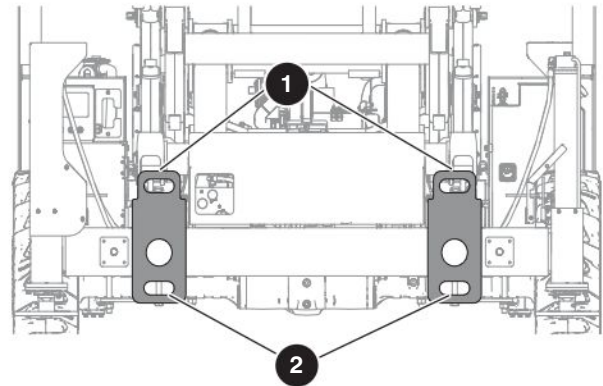
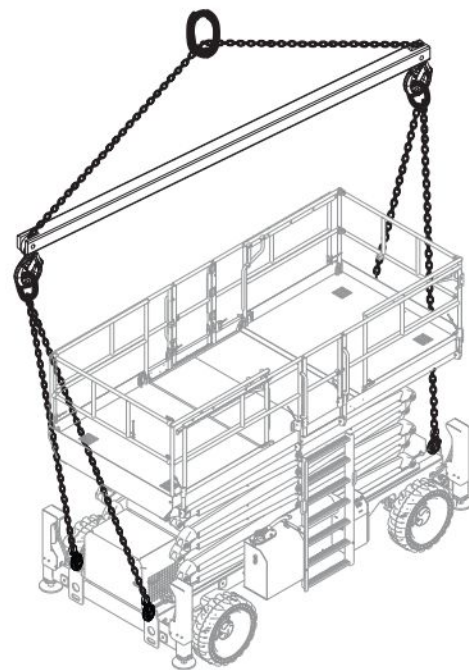

Figure 09 Lift and tie-down points
Figure 10 Appropriate method to hoist
- Attach the rigging to all **four lift points** ①. Refer to Figure 09 and Figure 10.
When you transport the MEWP, it must be attached to a truck or trailer deck. Use the available tie-down points ② to attach the MEWP. Refer to Figure 09 If you do not obey, there is a risk of death or serious injury.
- Tie-down the MEWP to the transport vehicle using the four tie-down points ②. Refer to Figure 09.